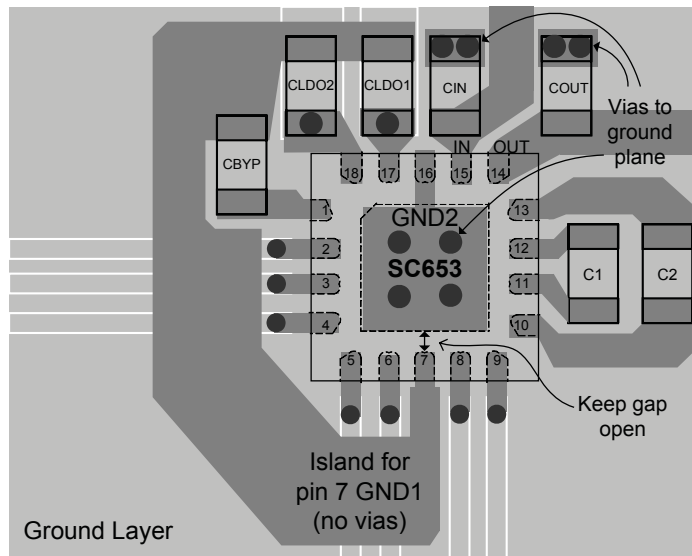

Figure 2 — Recommended PCB Layout
The layout diagram in Figure 2 illustrates a proper two-layer PCB layout for the SC653 and supporting components. Following fundamental layout rules is critical for achieving the performance specified in the Electrical Characteristics table. The following guidelines are recommended when developing a PCB layout:
- The following capacitors — CLDO1, CLDO2, and CBYP — should be grounded together through an isolated copper island. Using no vias, connect the island only, to pin 7 as shown in Figure 2.